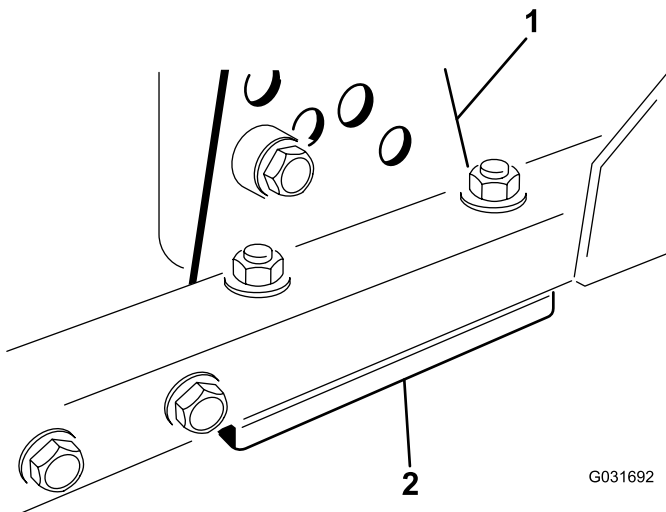

Figure 64
1. Remove the height-of-cut bracket (front, left, or right) from the deck frame (Figure 64).
2. Adjust 1.5 mm (0.060 inch) shims and/or 0.7 mm (0.030 inch) shim between the deck frame and bracket to achieve the desired height setting (Figure 64).